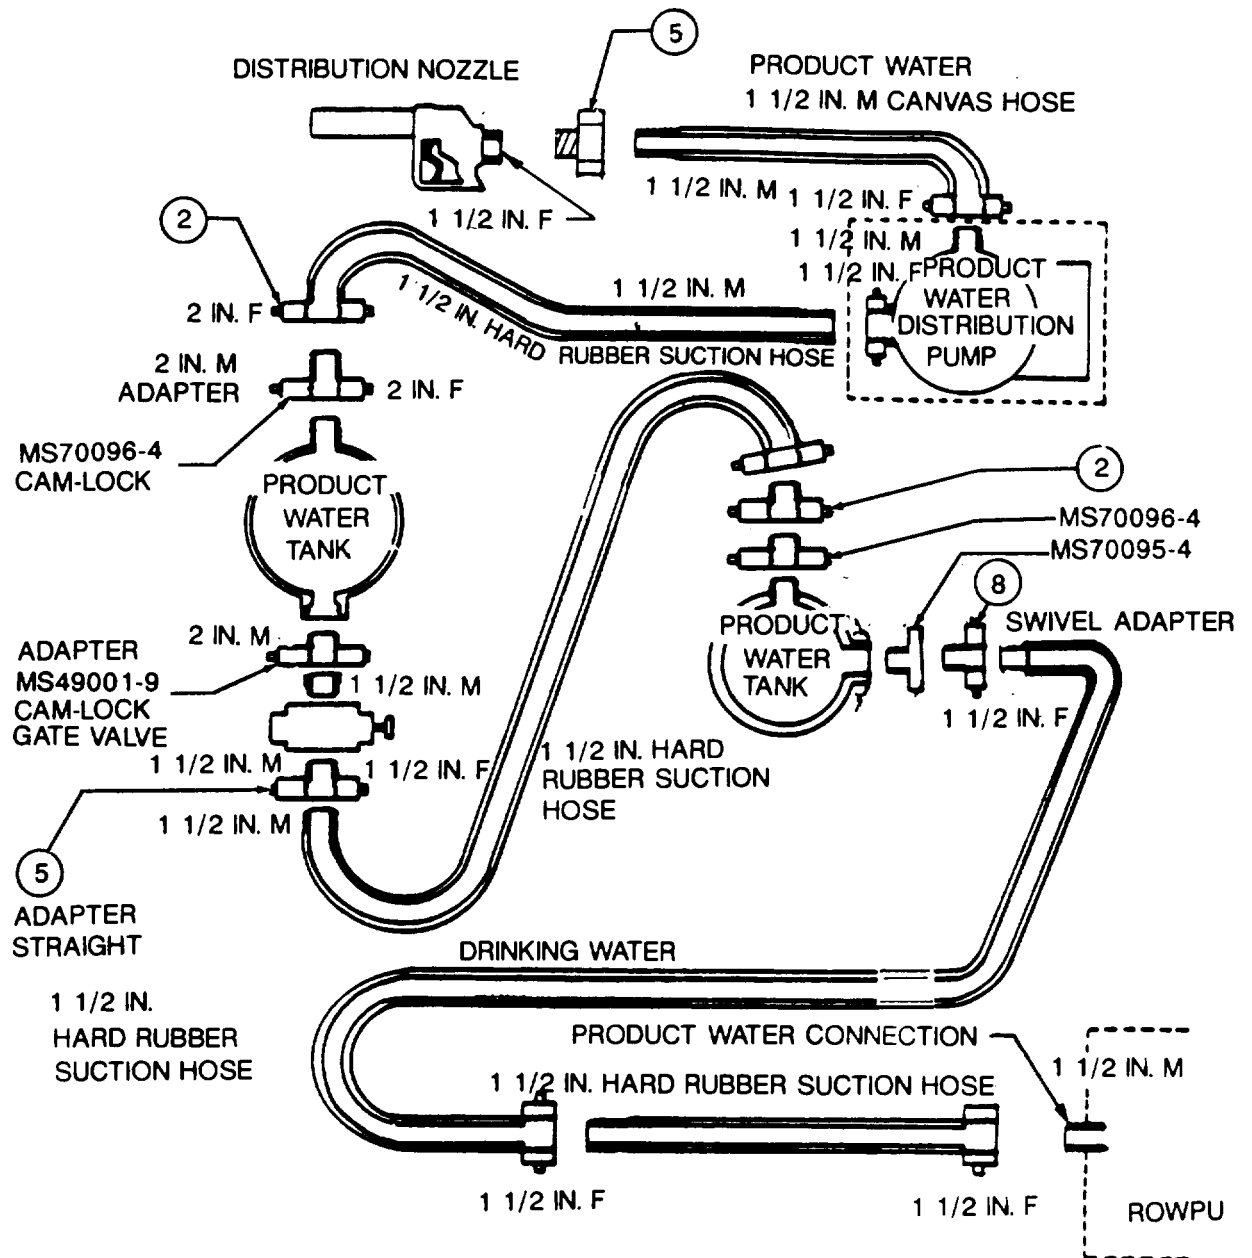

Figure 2-30. Product Water System
o. Attach float to strainer with enough rope to allow strainer to go under water but not touch bottom. Avoid placing the strainer near sandy areas. Hook up raw water system (fig. 2-30). Use only enough hose to reach from the water source to the ROWPU.